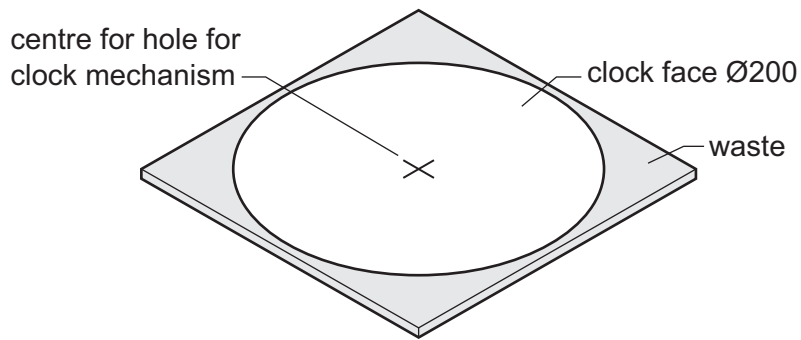

Fig. 12.2
- (c) Fig. 12.2 shows the clock face marked out on a sheet of 5 mm thick acrylic.
(d) A $\text{\O}5$ hole will be drilled through the clock face shown in Fig. 12.2 for the clock mechanism. State **two** precautions that must be taken to prevent damage to the clock face when drilling the hole.